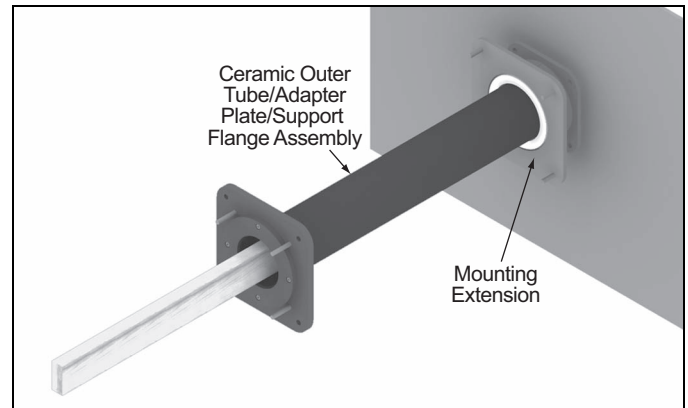

Figure 3.12
4. Slide the Ceramic Outer Tube/Adapter Plate/Support Flange assembly through the mounting extension (Item 10) into the furnace. Special care should be taken during this step to prevent damaging the fragile Ceramic Tube. It may be helpful to lift the assembly with a crane or hoist by rigging to the Adapter Plate. In many cases a cantilever will be necessary to keep the tube horizontal while inserting it into the furnace. If this is the case Eclipse recommends using a long piece of wood as shown in Figure 3.12.